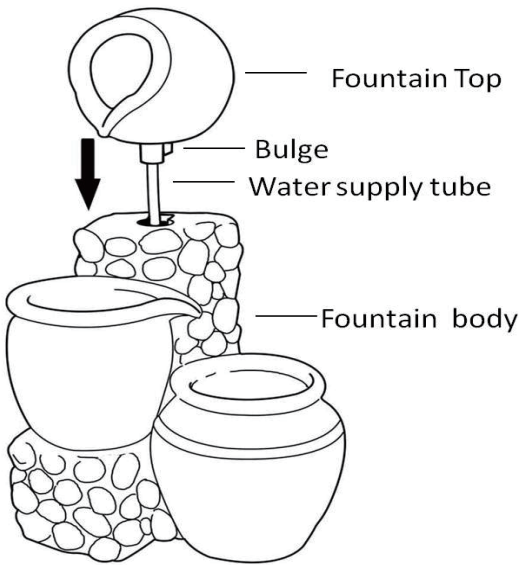

Fig. 1
3. Place the fountain body onto the ground and ensure that it is level. Position the fountain top over the fountain body and lead the water supply tube which is located under the fountain top through the pipe which is on the top of fountain body. Align and attach the fountain top to fountain body, make sure the water outlet is facing away from the pots of the fountain body and insert the fountain top into the fountain body until the pieces are secured together (Fig1)